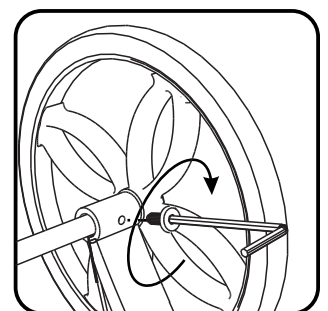

Figure 5
Lock Axle (F) in place by inserting Short Bolts into per-drilled holes in unit, then tighten bolts. (See Figure 5)